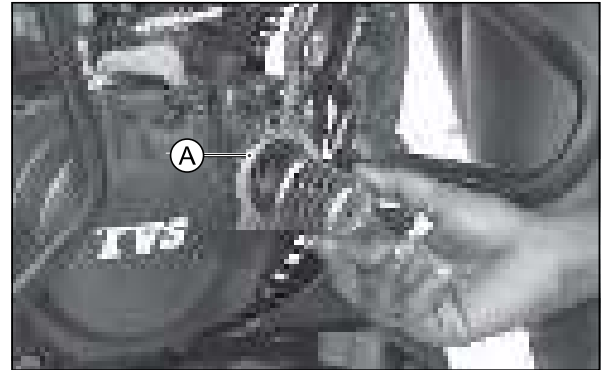

Fig. 2.36
- Remove the filter complete engine oil and 'O' ring (A). (Fig. 2.36)